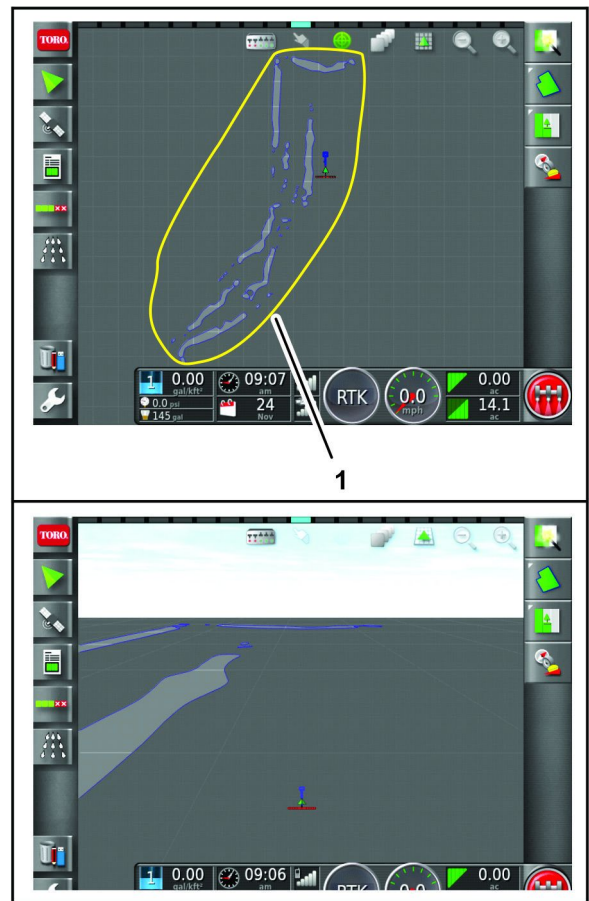

Figure 69
- Another spray technician uses machine #2 to map field boundaries for holes 10 through 18 (Figure 69).